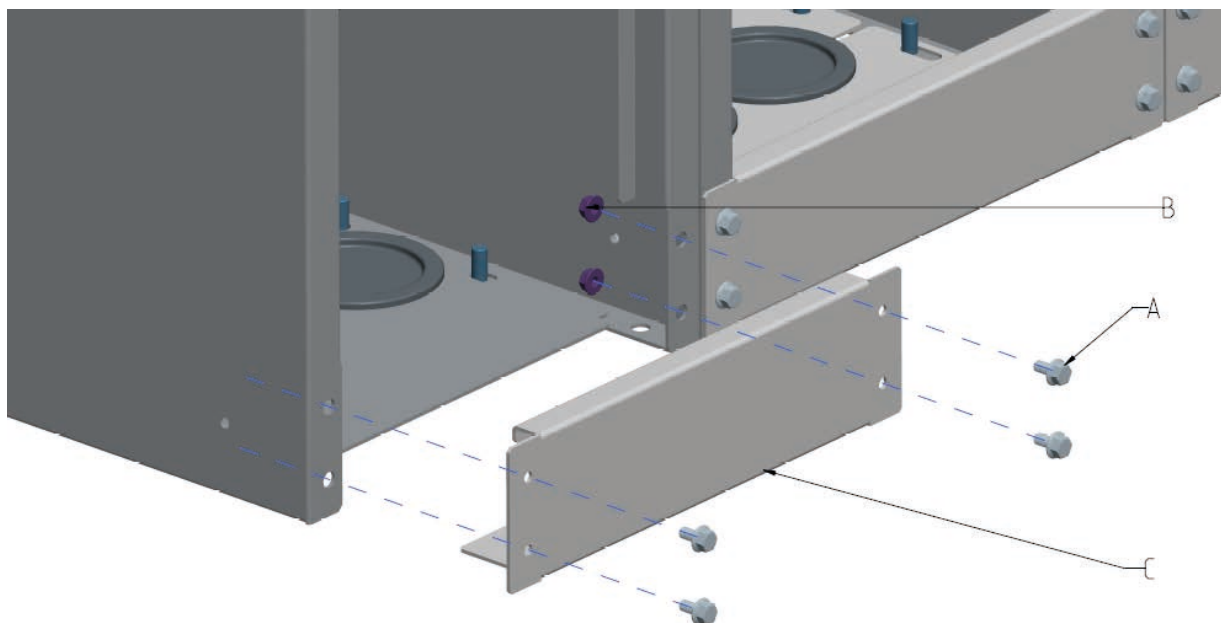

Figure 18: Dismantling of the front face of the cable compartment.
The cable connection in the DR-6 will be facilitated by removing the steel angle of the cable compartment (see figure 18 C) fixed by 4 screws (A) and 4 nuts (B) with hexagonal head.